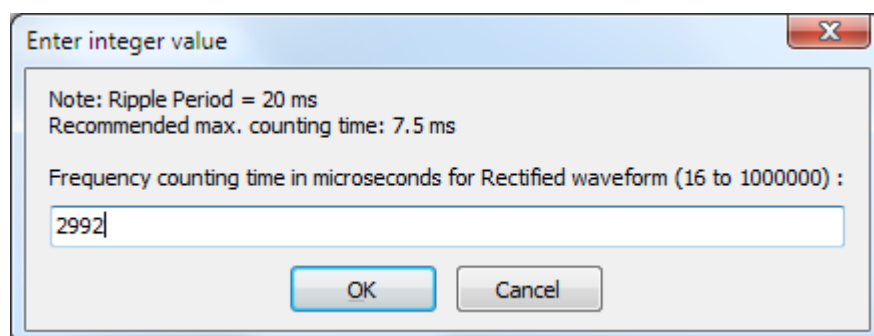

Figure 22. Entering counting time for Rectified sampling.
- If ripples are such that the power drops to zero, frequency counting time  $T_c$  should be shorter than a half of the ripple period. When entering  $T_c$ , the software informs about the ripple period and recommends a counting time not exceeding 75% of the ripple half-period (an example for 50-Hz ripple frequency is in Figure 22).